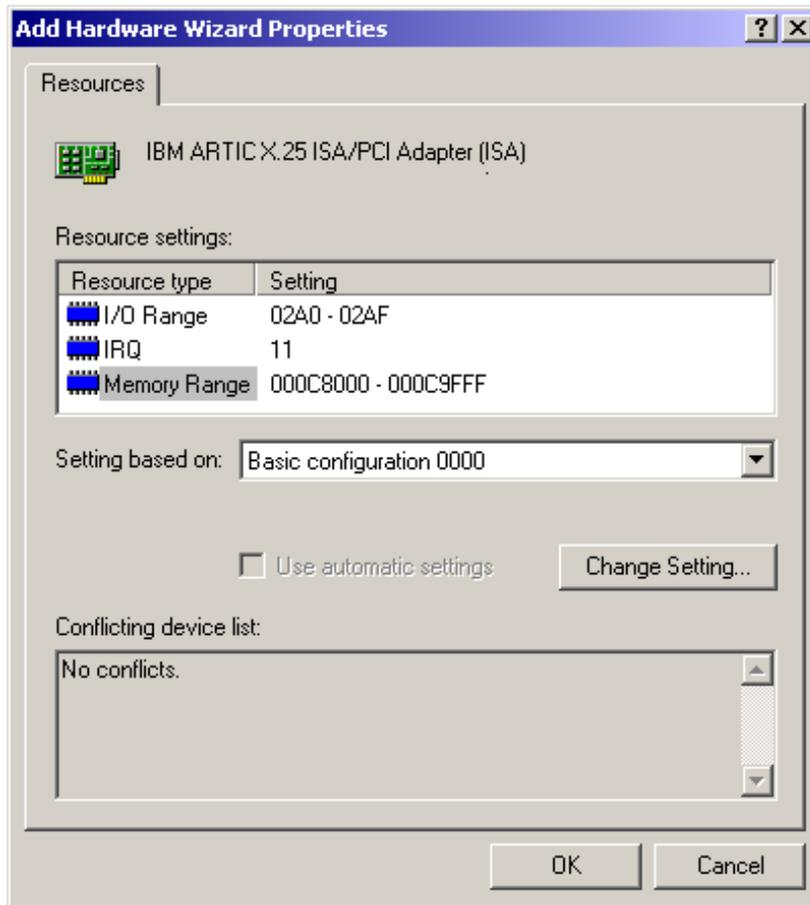

FIGURE 207. Completed edit of Resource window
51. Verify that your settings match Figure 207.